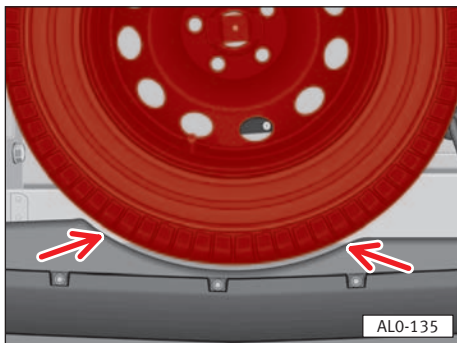

Fig. 173
- Stand the wheel behind the vehicle, as shown in the fig. 173.
- Turn the bolt in the luggage compartment floor clockwise with the wheel spanner to lift the wheel into the spare wheel bracket under the vehicle. **Ensure that the spare wheel fits into the recess (arrows) in the bumper ⇒ fig. 173.**